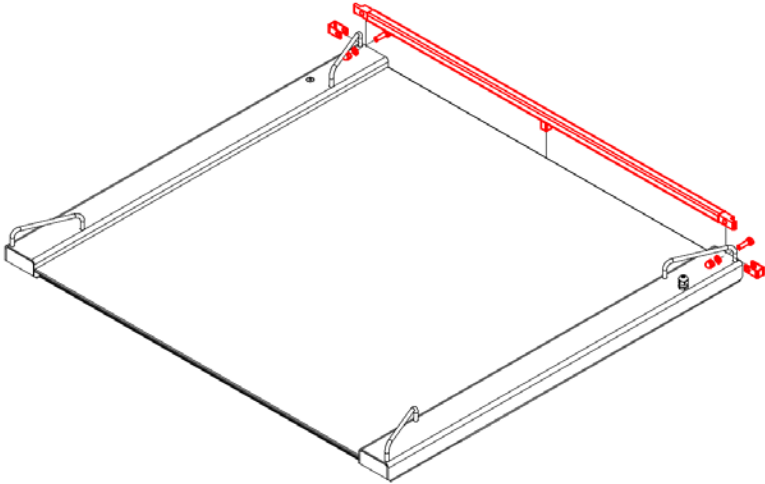

Fig.10. Beam assembly
5. Assemble the beam as shown in Figure 10.